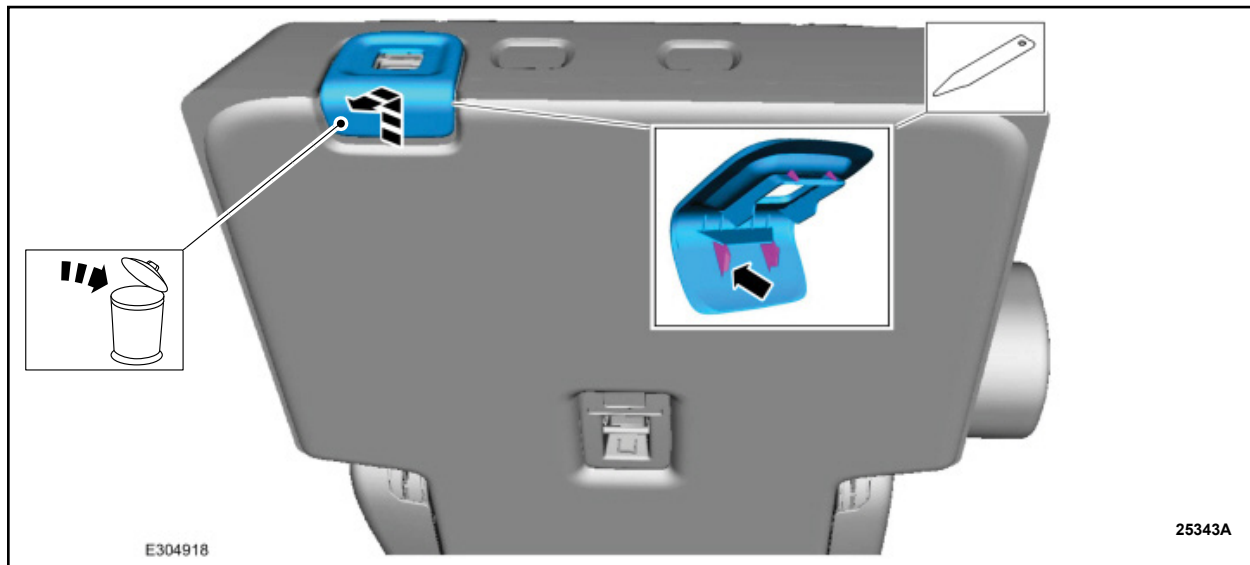

FIGURE 3
2. Release the retainers and remove the second-row single seat easy entry seat fold switch bezel. Discard the bezel. See Figure 3.